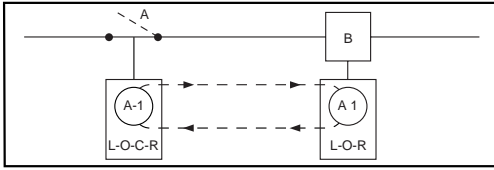

Figure 3
**Sample Application—3** (see Figure 3)